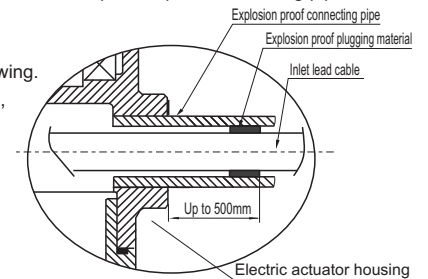

Fig.2
- The explosion-proof sealing material shall be filled into the explosion-proof connecting pipe, and the distance from the filling position to the actuator shall not be greater than 500mm, as shown in Figure 2..